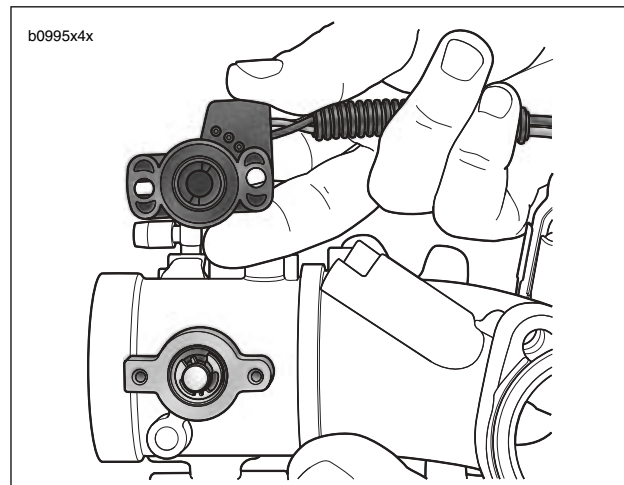

Figure 4-81. Throttle Position Sensor
3. See Figure 4-81. Remove two screws and washers to detach TP sensor.
1. See Figure 4-81. Apply LOCTITE 222 (purple) to threads of fasteners.